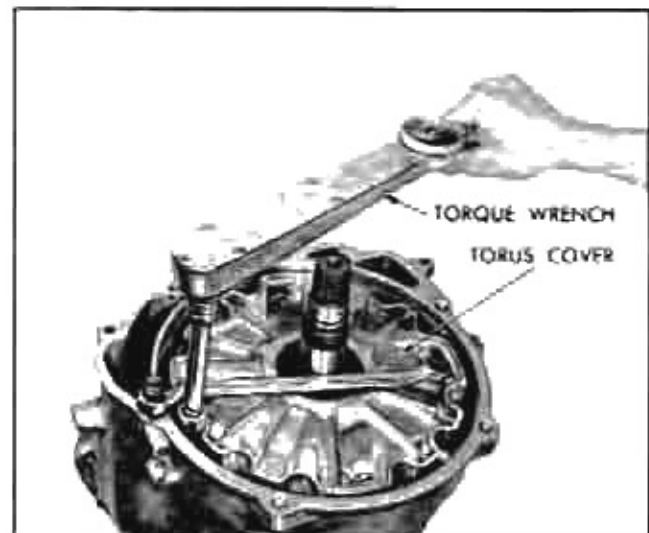

Fig. 123 Torquing Torus Cover Bolts
17. Install box head wrench on case, as a tool, (Fig. 123), and install 12 torus cover to drive torus attach-